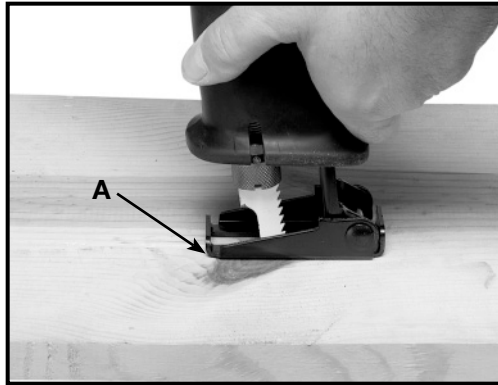

Fig. 8
The pivoting guide shoe (A) Fig. 8, serves as a rest while making a cut and it can be adjusted to accommodate many types of cutting applications.